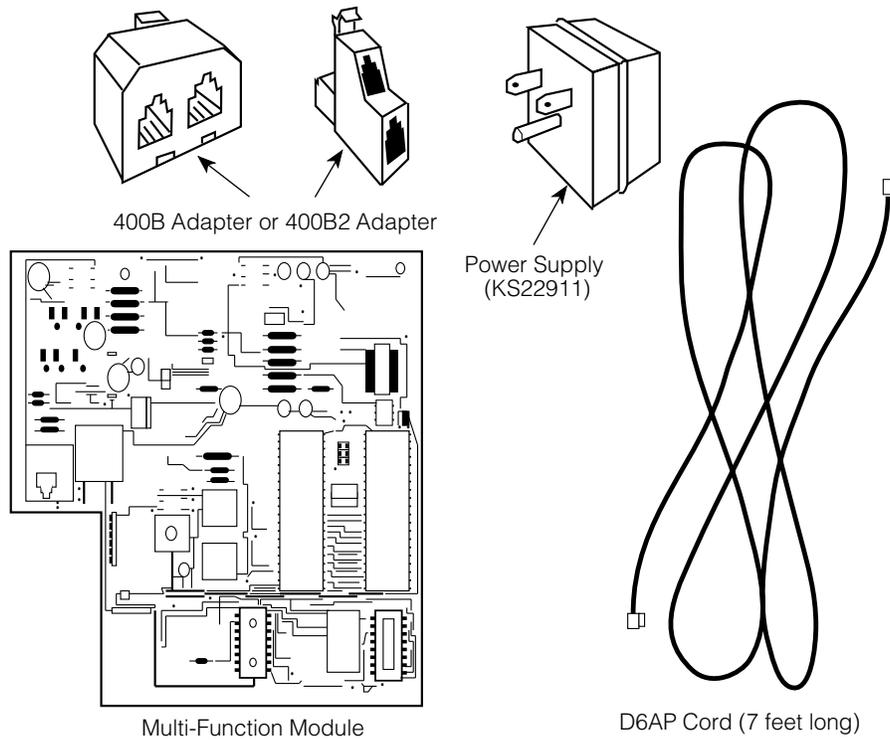

Figure 3-1. Multi-Function Module Packing List
- The MFM has two jumper blocks that are factory-set for T/R operation. The MFM is packaged with the following items, shown in Figure 3-1: